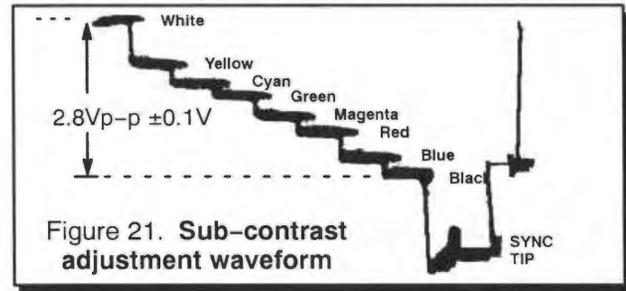

Figure 21. Sub-contrast adjustment waveform
1. In the Serviceman Mode for electronic adjustments, select DAC Adjustment (B3) and adjust until **2.8Vp-p \pm 0.1V** from white level to black level is measured on video waveform (see Figure 21).